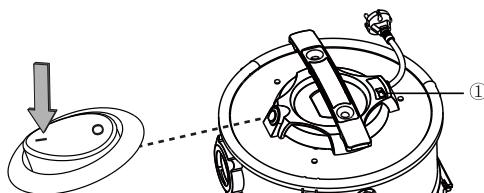

Fig 7
- Turn on the motor by assigning the switch to the “I” ON position (Fig. 7).
The ash vacuum cleaner is fitted with a filling level indicator (①). If the filling level indicator shows a red bar, the container and filters should be emptied or cleaned (Fig. 7).